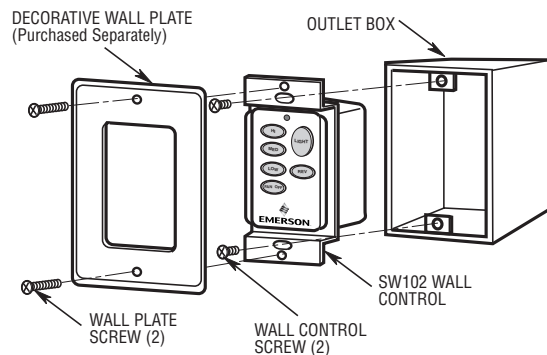

Figure 23
3. Install the wall control onto the outlet box using the supplied screws (Figure 23).
4. Install a decorator wall plate (purchased separately) using the two screws provided (Figure 23).